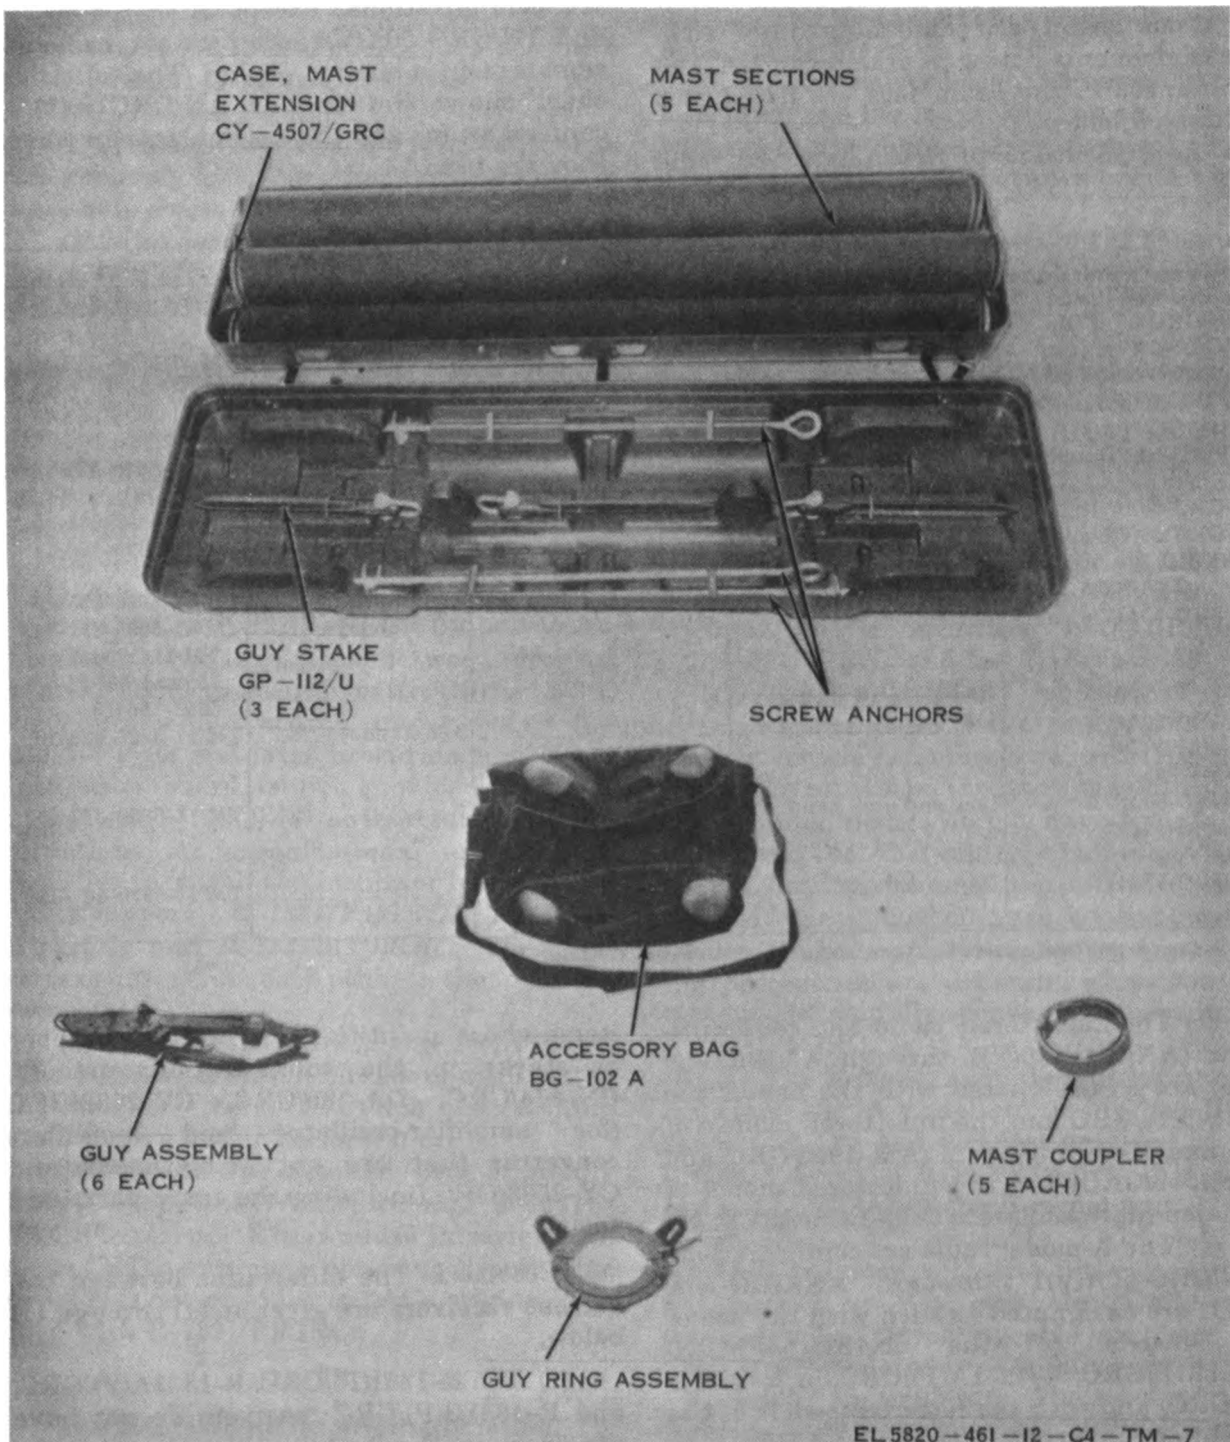

Figure 1-9. Extension Kit, Mast MK-808/GRC, components.
c. Extension Kit, Mast MK-806/GRC (fig. 1-9) (TM 11-5820-538-12) consists of five tubular sections (contained in a mast section carrier case), cable assembly, and accessories (contained in accessory bag). When assembled with the AB-577/GRC, it raises the height of the antenna system to 75 feet. It is used with but is not part of the AN/GRC-50(*) (V).